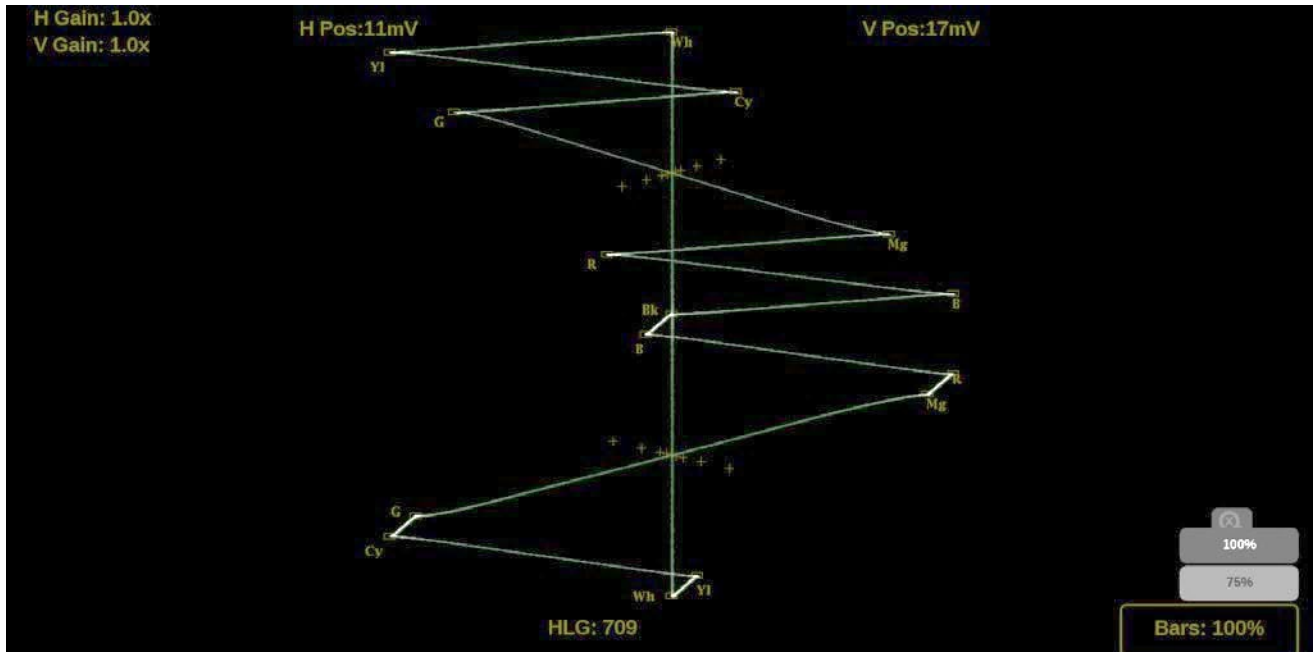

Figure 217: Lightning on-screen tools – Bar Targets
1. Select **Bars** in the bottom right corner of the application to expand the available options. (See Figure 217.)